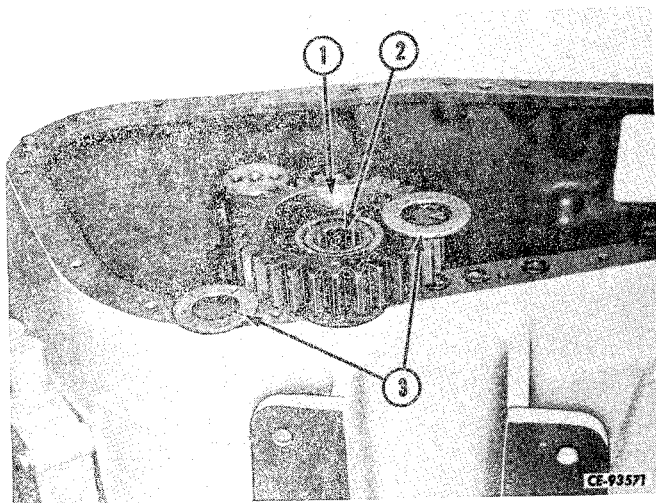

Figure 4-37
Remove the reverse idler gear (1, Fig. 4-37) roller bearing (2) and washers (3).